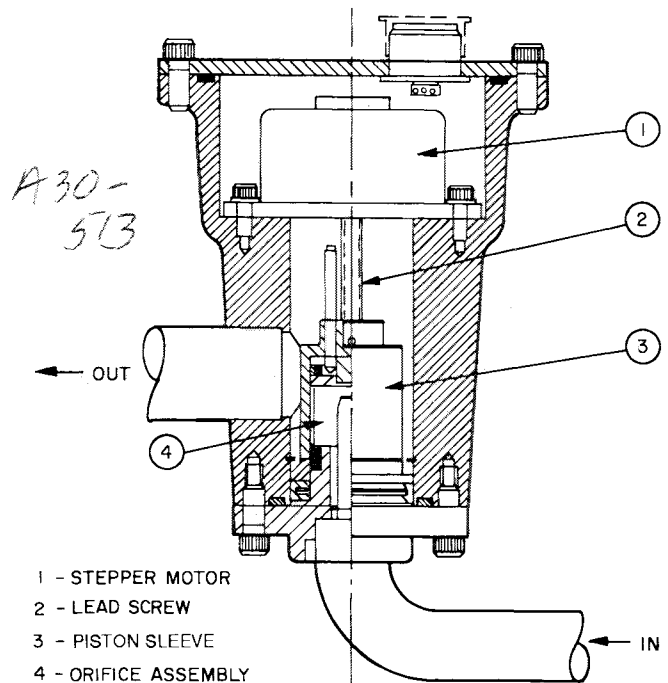

Fig. 18 — Electronic Expansion Valve
ELECTRONIC EXPANSION VALVE (EXV) — A cut-away drawing of valve is shown in Fig. 18.
4. Note position of lead screw (see Fig. 18). If valve has responded properly to processor signals in Step 5.1 above, valve should be fully open and lead screw should protrude approximately $\frac{1}{4}$ in. (6 mm) to $\frac{3}{4}$ in. (19 mm) above top of motor.
NOTE: The EXV orifice is a screw-in type and may be removed for inspection and cleaning. Once the top cover has been removed, the EXV motor may be taken out by removing the 2 cap screws securing motor to valve body. Pull motor, lead screw, and the slide assembly up off the orifice assembly. See Fig. 18. A slot has been cut in top of orifice assembly to facilitate removal using a large screwdriver. Turn orifice assembly counterclockwise to remove.